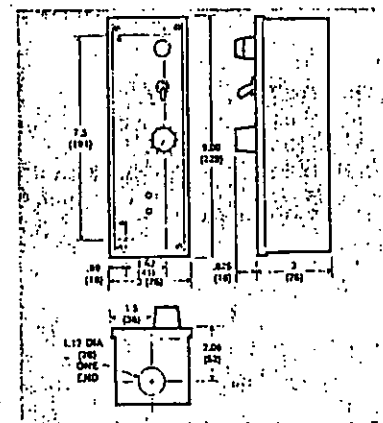

FIGURE 3. SERIES 2250 DIMENSIONS
- Mount the enclosure with its 1-1/2 inch diameter conduit hole at the bottom to ensure adequate clearance between the external wiring and controller components. See Figure 3 for dimensions.